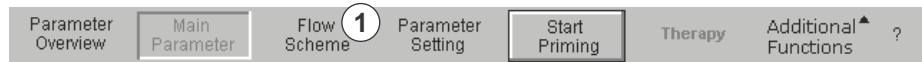

Fig. 2-23 *Flow Scheme* item in the menu bar
1. Use rotary knob to select *Flow Scheme* item (Fig. 2-23, ①) in menu bar and press *Enter* key.